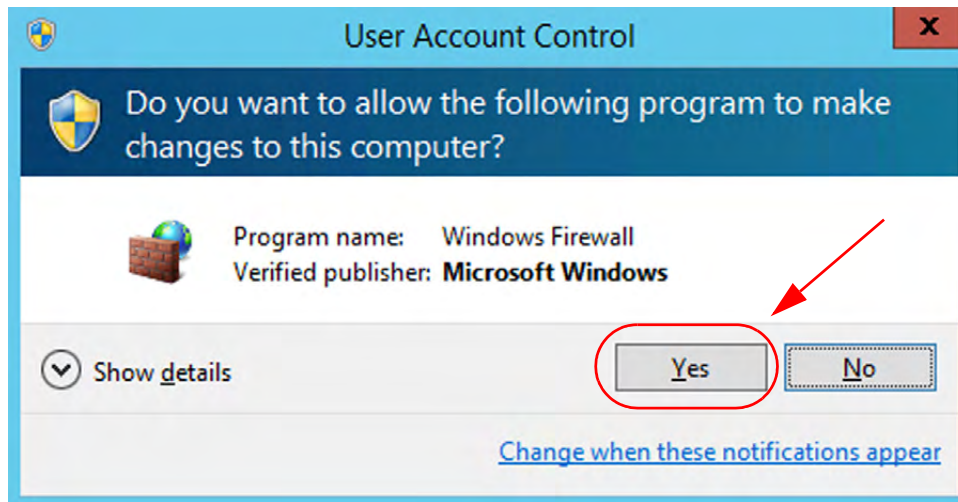

Figure 3.5: Windows Server 2012: User Account Control
5. From the User Account Control screen, select “Yes”. Figure 3.5.